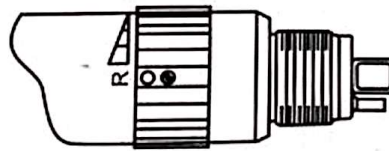

Fig. 4
(2) Reverse Rotation: Turn the FWD/REV Change Ring to "R" as shown in Fig. 4.